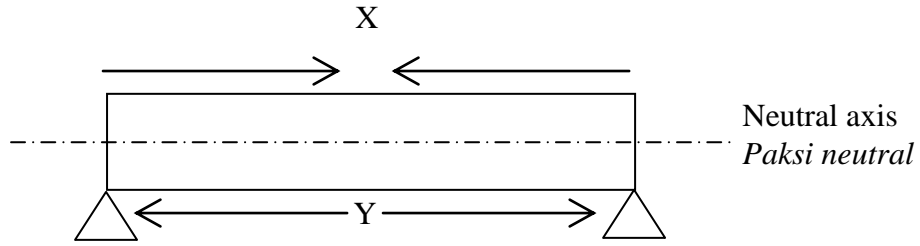

Figure 12
28. State forces X and Y shown in Figure 12.